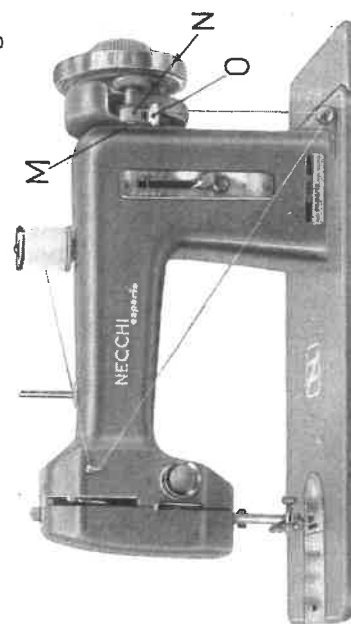

Fig. 8
- b) Set the thread as shown in Fig. 8 and wind its
- a) Push slide plate "S" to the left (Fig. 8).